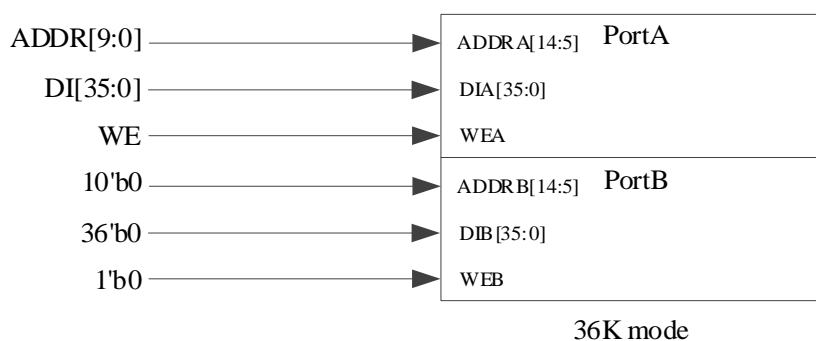

Figure 5-3 Port Signal Configuration for TW and RBW Modes in 36 Bits 36K SP Mode
- Use one port for read-write operations, set the write enable of the other port to 0, and the read data port is unused, as shown in Figure 5-3: